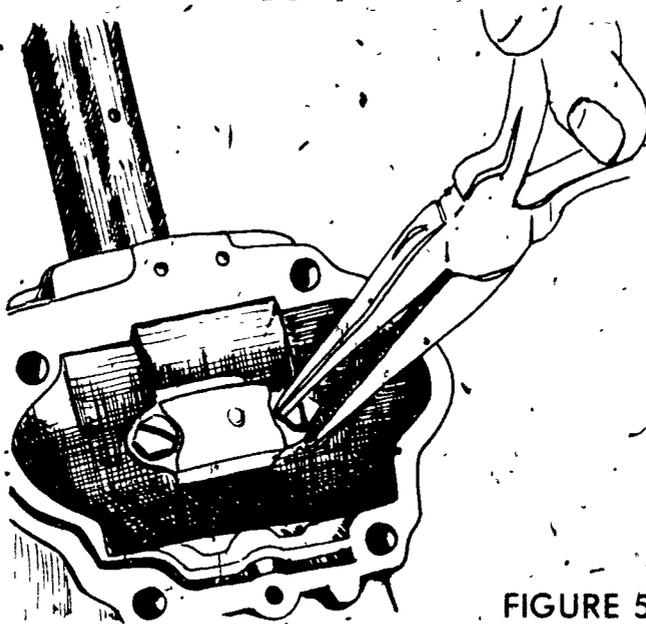

FIGURE 5
- K. Bend lock tabs to retain rod capscrews (Figure 5)